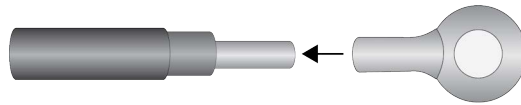

Figure 47. Sliding the Ring Terminal Lug on the Grounding Wire
3. Slide the ring terminal lug over the stripped wire on the grounding wire. Refer to Figure 47.